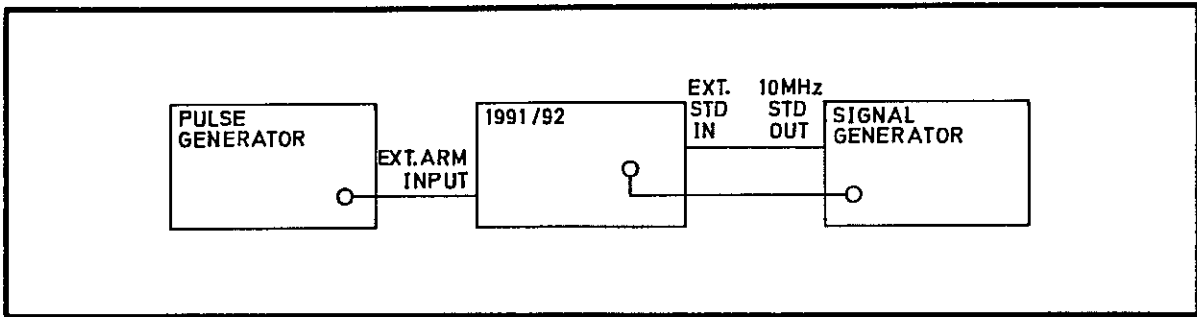

Fig 7.22 Connections for External Arming PVP
- 59 (1) Select 50  $\Omega$  on channel A and FREQ A. Press the RESOLUTION key three times until 00000 is displayed.
- (2) Connect the test equipment as shown in Fig 7.22.
- (3) Set the signal generator output to 10 MHz at a level of 200 mV r.m.s.
- (4) Prepare the pulse generator to give a single, 300  $\mu\text{s}$ , positive-going pulse with a low level of +0.4 V and a high level of +2.4 V (TTL limit levels).
- (5) Press
- (6) Verify that the instrument is not counting.
- (7) Trigger the pulse generator to obtain a single pulse output.
- (8) Verify that the display indicates 10.0000 6 Hz  $\pm$  1 count and that the instrument is not continuously gating.
- (9) Press
(10) Disconnect the test equipment.